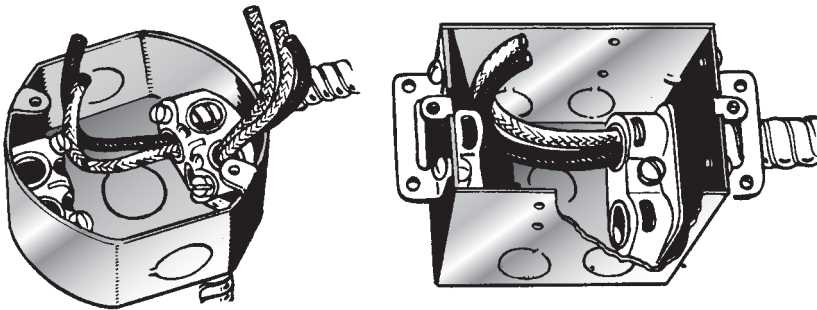

Fig. 10-16 Boxes are available with clamps for cable, making the use of separate connectors unnecessary.
It is common to use boxes that have built-in clamps, which eliminate the need for separate cable connectors. Typical boxes of this kind are shown in Fig. 10-16. The ends of the wires would be much longer than shown.
7. For internal cable clamps, such as those shown in Fig. 10-16, one allowance (however many clamps are present) based on the largest conductor entering the box. Cable clamps with the clamping mechanism outside the box need not be counted.